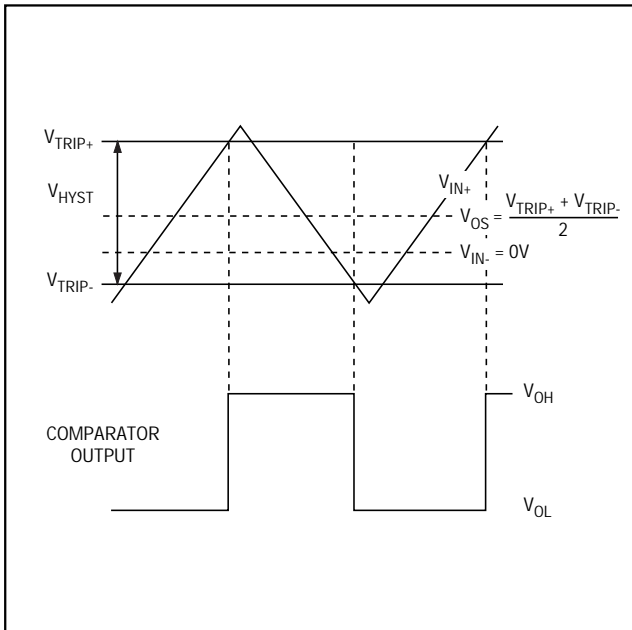

Figure 1. Input and Output Waveform, Noninverting Input Varied
- Note 2:** The input-referred trip points are the extremities of the differential input voltage required to make the comparator output change state. The difference between the upper and lower trip points is equal to the width of the input-referred hysteresis zone. See Figure 1.
- Note 3:** V_{OS} is defined as the center of the input-referred hysteresis zone. See Figure 1.
The hysteresis in a comparator creates two trip points: one for the rising input voltage and one for the falling input voltage (Figure 1). The difference between the trip points is the hysteresis. When the comparator's input voltages are equal, the hysteresis effectively causes one comparator input voltage to move quickly past the other, thus taking the input out of the region where oscillation occurs. Standard comparators require hysteresis to be added with external resistors. The MAX941/MAX942/MAX944's fixed internal hysteresis
Figure 1 illustrates the case where $IN-$ is fixed and $IN+$ is varied. If the inputs were reversed, the figure would look the same, except the output would be inverted.